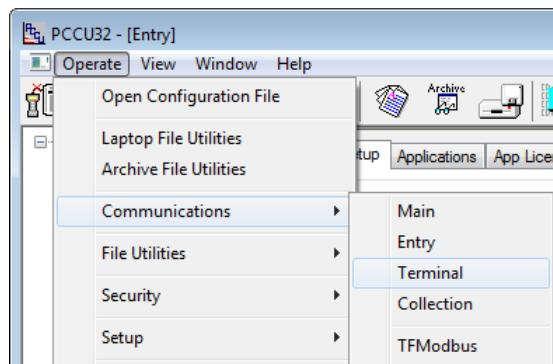
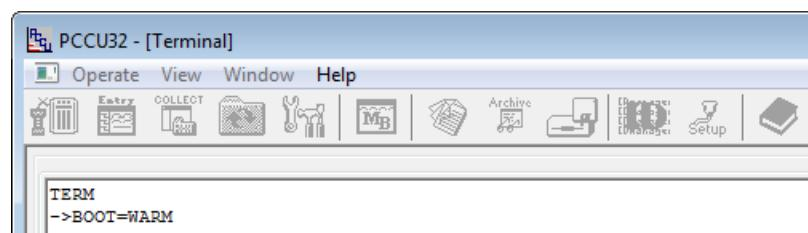

Figure 85: Terminal menu option
Figure 86: Terminal screen – warm boot
3. Click **Operate** in the menu bar and select the options **Communications** then **Terminal** (Figure 85). The Terminal screen displays (Figure 86).